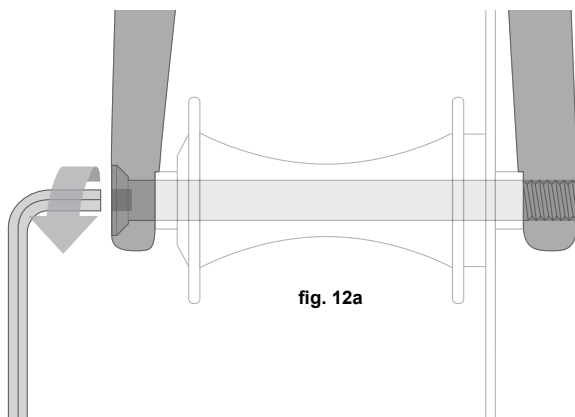
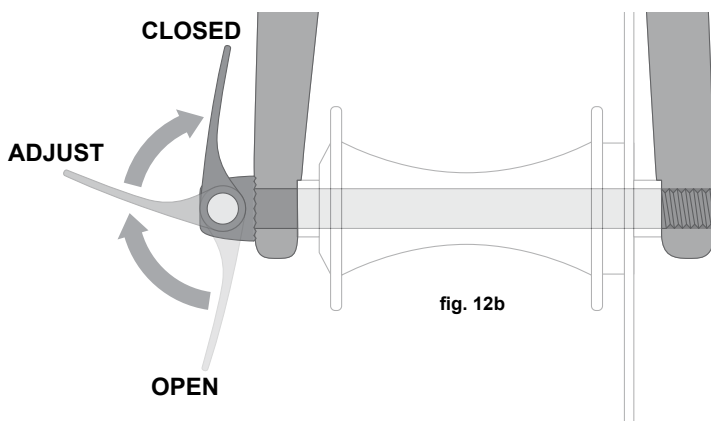

fig. 12a
fig. 12b
a. Adjusting the thru-axle mechanism (fig. 12a & 12b)
The thru-axle is inserted through the unthreaded hole in the frame or fork's dropout, through the wheel hub, and is threaded directly into the opposing dropout by tightening the thru-axle. Common installation methods may use an Allen hex key (fig. 12a) or a cam lever (fig. 12b). Please refer to the manufacturer's instructions for specific information about your thru-axle's operation, including correct torque specifications or lever adjustment information.
- (4) If your bike has a thru-axle front wheel mounting system (**figs. 12a & 12b**), loosen and remove the thru-axle according to the manufacturer's instructions, then remove the front wheel.
- (c) With a thru-axle system, tighten the thru-axle (**figs. 12a & 12b**) according to the manufacturer's instructions.
(5) If your bike has a thru-axle rear wheel mounting system (**figs. 12a & 12b**), loosen and remove the thru-axle according to the manufacturer's instructions.
(6) Push the rear wheel forward far enough to be able to remove the chain from the rear sprocket, then lift the rear wheel off the ground a few inches and remove it from the rear dropouts.
(c) With a thru-axle system, tighten the thru-axle (**figs. 12a & 12b**) according to the manufacturer's instructions.